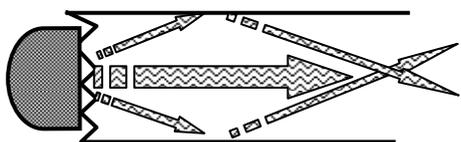

Figure 2
- Rough or irregular surfaces, which prevent adequate contact with the transducer. Energy will ricochet off the sidewalls. Small irregularities or surface roughness can be filled with couplant, but energy transmission will still be reduced and dispersed, as shown in Figure 2.